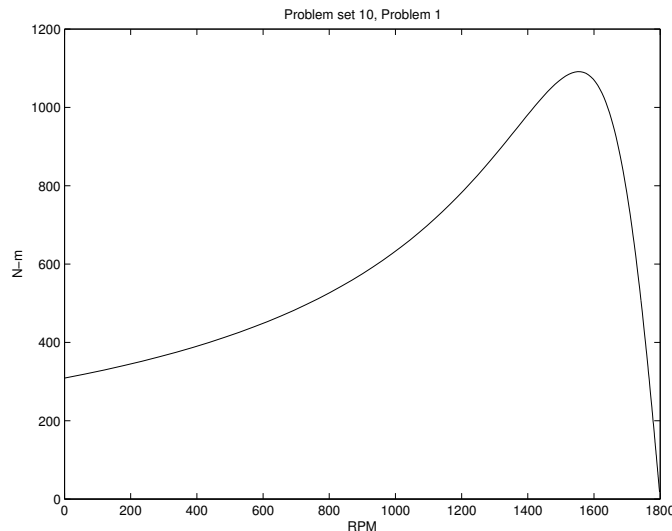

Figure 1: Torque-Speed Curve
**Problem 1:** The torque-speed curve is generated in a straightforward way by first finding the input impedance of the machine, finding terminal current, doing the current divider thing to find rotor current and using that to find torque. The resulting curve is shown in Figure 1